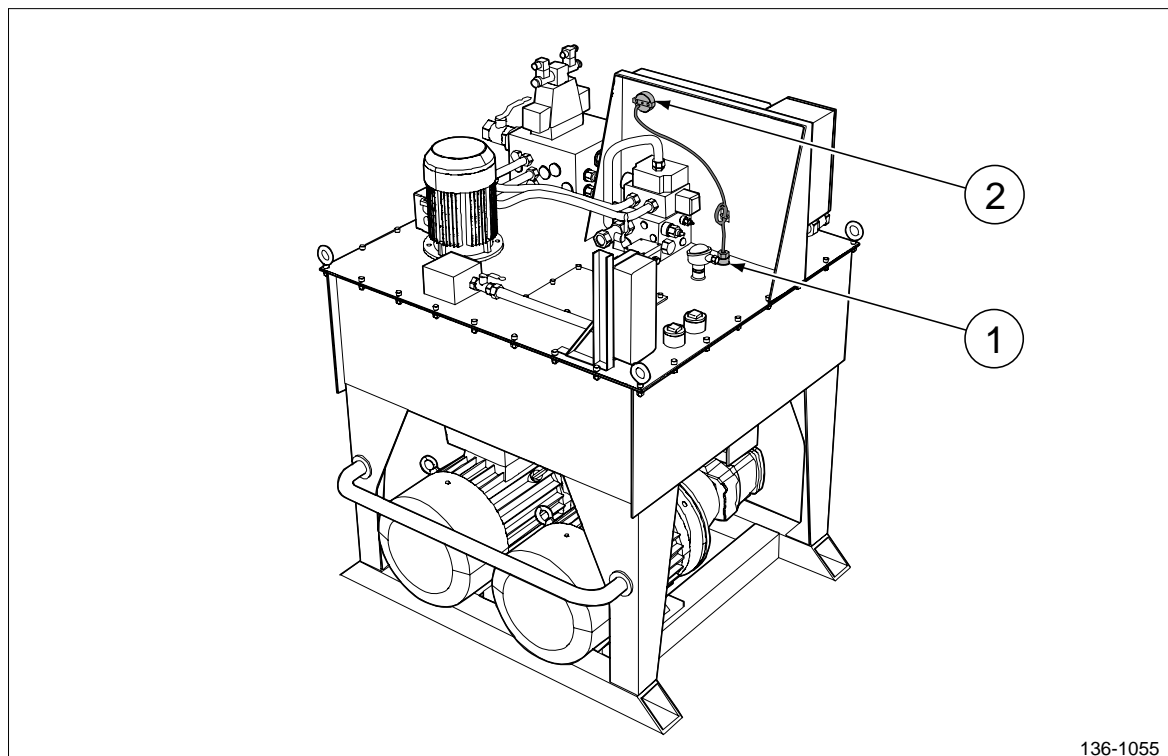

Figure 2 The thermometer is positioned on the hydraulic power pack.
5. Locate the thermometer bulb (figure 2) and the temperature gauge (figure 1).